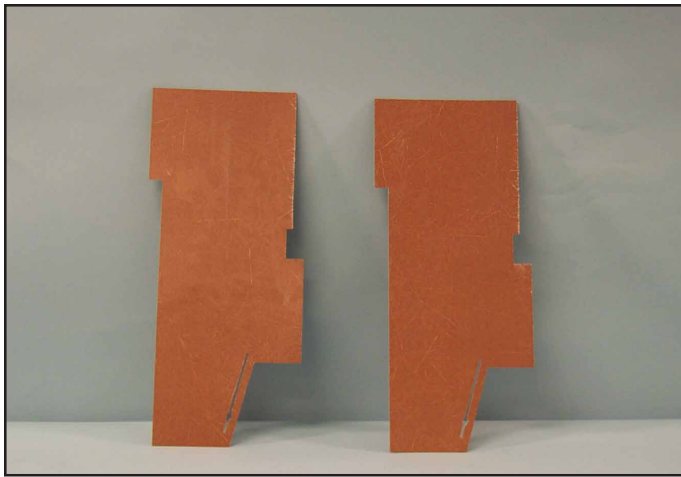

Fig. 5 Overview: Modifying the Phase 3 Phase Barriers.
- A. Double check the location and orientation of the two (2) Phase 3 (right) Phase Barriers.
- B. Mark and cut .500" from the front edge of each Phase Barrier, from the top to the notch, as shown in Figure 5.